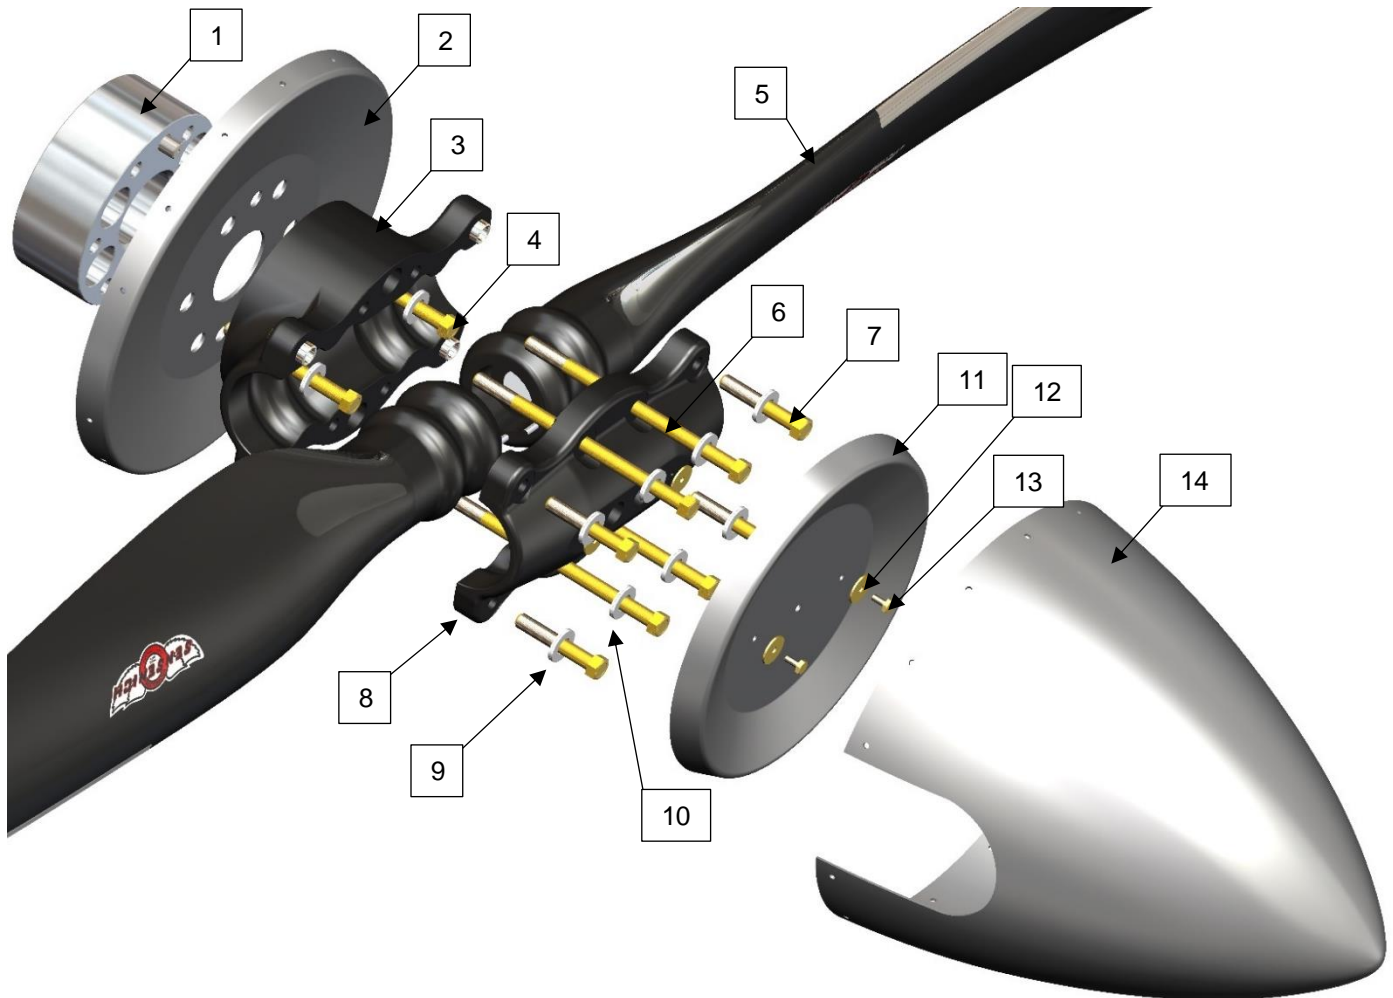

FIGURE 1. PROPELLER ASSEMBLY
| FIG 1. 2G0Mx Propeller Assembly | 2 |
1. Ensure the aircraft magneto switch is in the "OFF" position and that both magnetos are grounded any time the propeller is handled. Chock the aircraft wheels to prevent movement. Clean dirt and oil residue from the engine flange. Refer to **Figure 1** for views of the two-piece hub, blade, and pitch setting gauge.
2. Place spacer (if required), rear spinner bulkhead (if used) and the hub mount, as shown in **Figure 1**, on the propeller mounting flange. The hub must sit flush on the mounting flange.
3. Refer to **Figure 1** for views of the two-piece hub, blade, and pitch setting gauge. Using the two Nord-Lock washers and two short mount bolts, secure the hub mount, rear spinner bulkhead (if used), and the spacer (if required) to the engine flange. Using a calibrated torque wrench, torque the 2 mounting bolts evenly using an alternating pattern. Tighten the bolts in several increments up to full torque, such as 50%, 75%, and full torque. See **Table 1**.